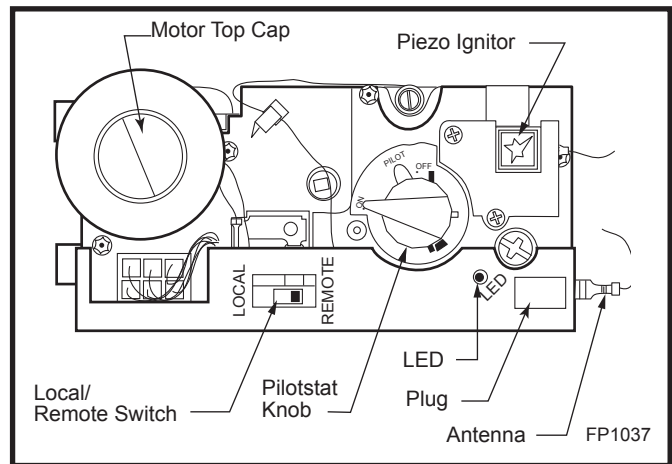

Fig. 83 Comfort control valve.
3. Remove and replace plug on lower right hand side of the valve; Red for LP and blue for NG. (Fig. 83)